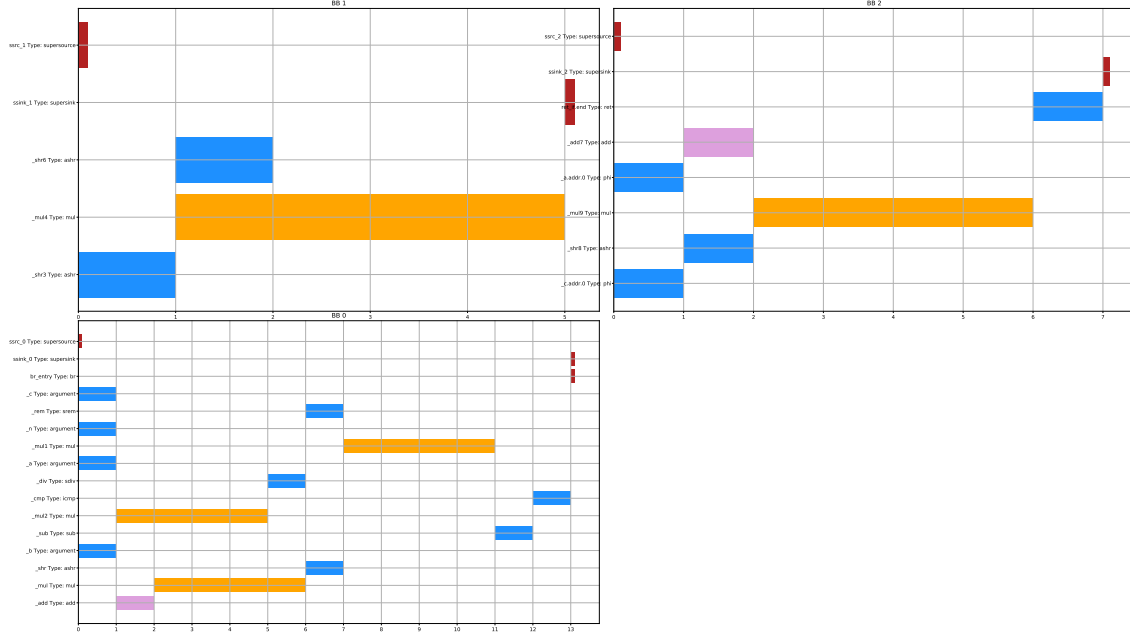

Figure 3: Kernel 1 with ASAP scheduling and resource constraints
2. • Kernel 1: As shown in Figure 3, setting the resource constraints to a value larger or equal to the maximum number of needed resources, produces an identical schedule to ASAP without resource constraints